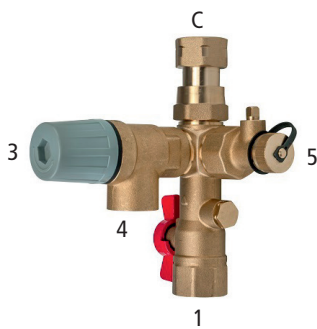

Figure 2
- The safety valve must be able release the rated output of the water heater at least. The use of a METRO THERM safety device (figure 2) fulfils this requirement.